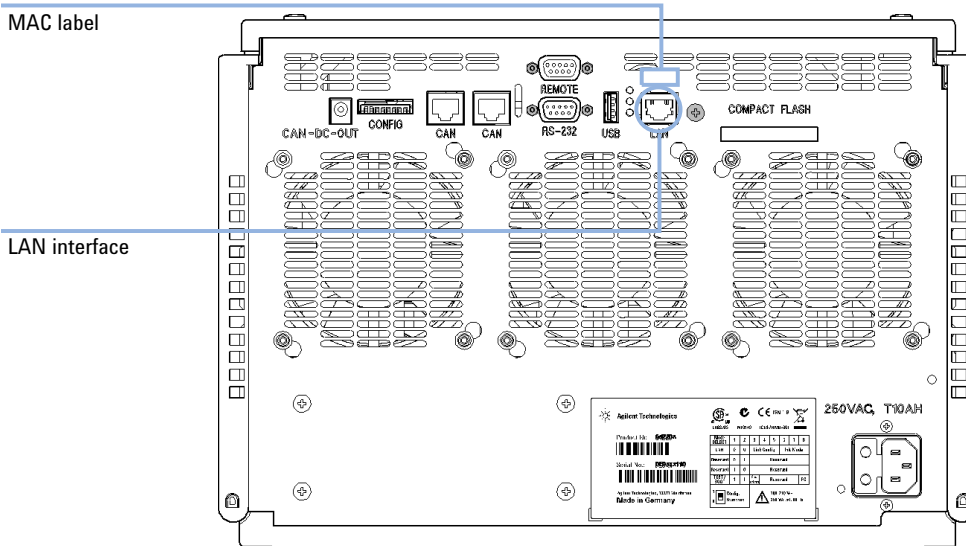

Figure 35 Location of LAN interfaces and MAC label
- 1 Note the MAC (Media Access Control) address for further reference. The MAC or hardware address of the LAN interfaces is a world wide unique identifier. No other network device will have the same hardware address. The MAC address can be found on a label at the rear of the module (see Figure 35 on page 252).
- 2 Connect the instrument's LAN interface (see Figure 35 on page 252) to